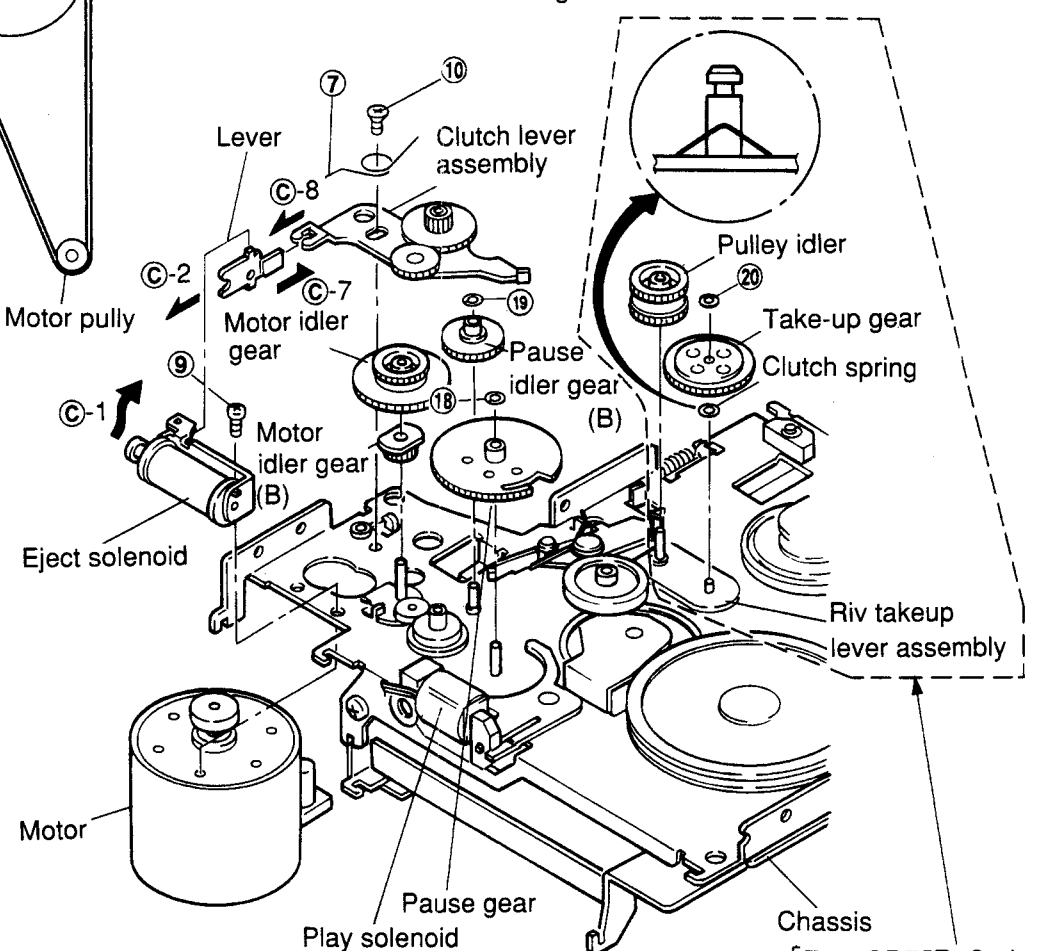
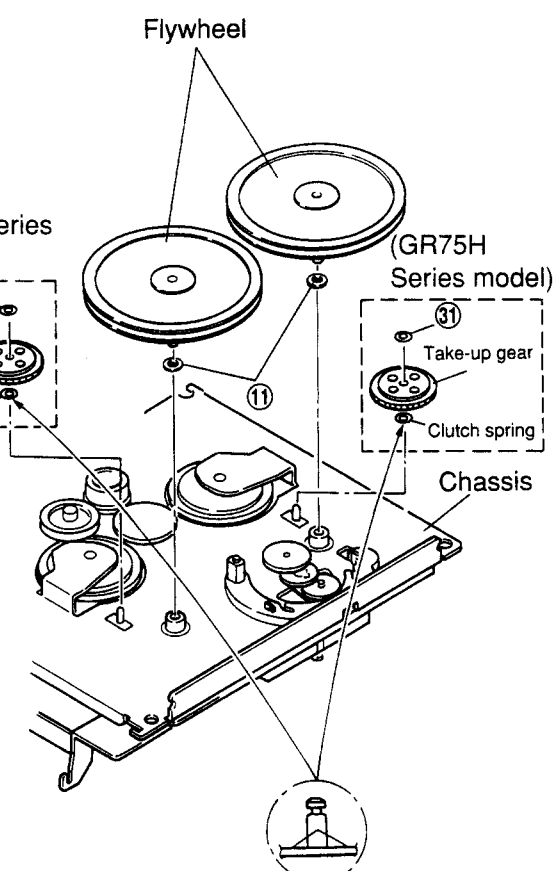
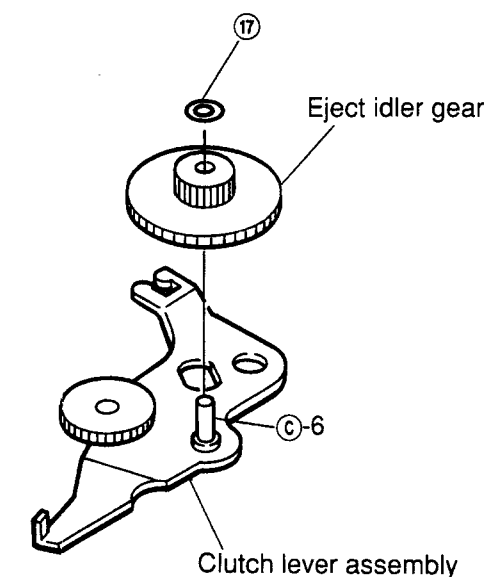

Figure 10
Figure 12
Figure 15
- (1) After removing the belt, remove spring ⑦ as shown in Figure 10.
- (3) Remove two screws ⑨ and ⑩, and remove the motor, taking care not to damage the motor idler gear. (Refer to Figure 10.)
- (4) Mount the new motor following the removal steps in the reverse order.
- (1) After removing the belt, pull out the two flywheels. Take care not to loose the polyslider washer ⑪ located between the flywheel and the chassis. (Refer to Figure 12.)
- (2) Fix the polyslider washer to the new flywheel and mount the flywheel to the chassis.
- (2) Remove screw ⑨ and remove the solenoid as shown in Figure 10.
- (3) Align position ⑥-1 of the new solenoid with position ⑥-2 of the lever and fasten the screw as shown in Figure 10.
- (4) Lead the wire through the tube and solder it.
- (1) After removing the motor, remove the motor idler gear and the motor idler gear (B) and remove the clutch lever assembly as shown in Figure 10.
- (2) Remove M1.2 lock washer ⑰ and remove the eject idler gear as shown in Figure 15.
- (3) Mount the new gears and clutch lever following the removal steps in the reverse order.
Note: When mounting the gears to the lever, apply grease (PG-671) to the position ⑥ as shown in Figure 15. Align the position ⑦ with the position ⑧ and mount the clutch lever as shown in Figures 10 and 15.
- (1) Remove M1.2 lock washer ⑱ and remove the pause gear pulling it up from the stud of the chassis as shown in Figure 10.
- (2) Mount the new gear following the removal steps in the reverse order.
- (1) After removing the motor and the motor idler gear, remove M1.2 lock washer ⑲ and remove the gear by pulling it up from the stud of the chassis as shown in Figure 10.
- (2) Mount the new gear by following the removal steps in the reverse order.
- (1) After removing the belt and the pulley idler gear, remove M1.2 lock washer ⑳ by pulling it up from the stud of the riv take-up lever assembly as shown in Figure 10. After removing the Flywheel, remove M1.2 lock washer ㉑ and remove the gear by pulling it up from the stud of the chassis as shown in figure 12. [For GR75H Series model]
- (2) Remount the take-up gear following the removal steps in the reverse order.